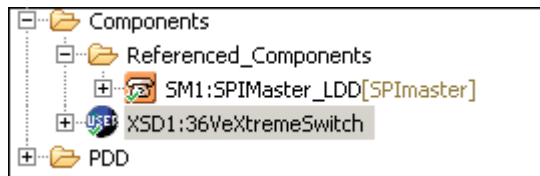

Figure 21. Configure 36VeXtremeSwitch
- To configure 36VeXtremeSwitch component, double click this component then configurations are shown in the Component Inspector view (see Figure 21).